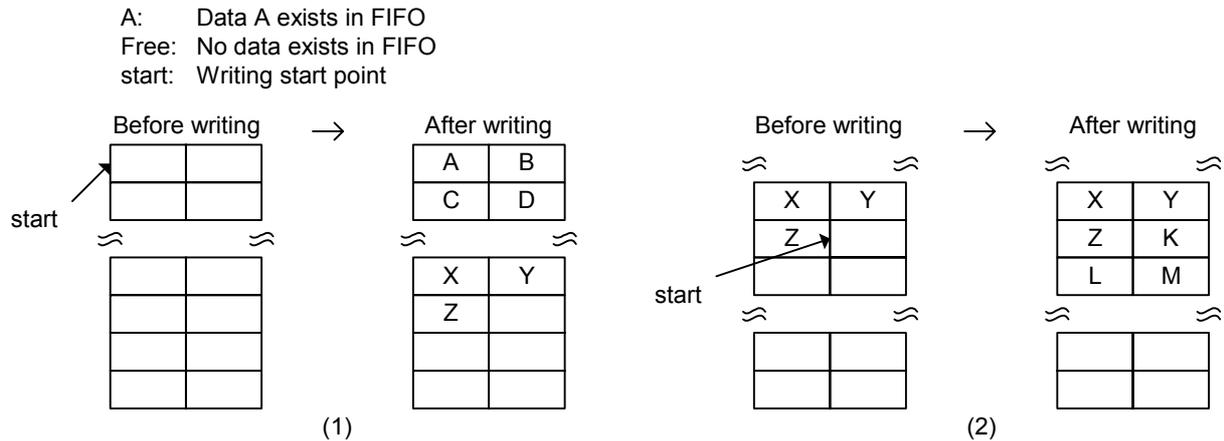

Fig.1.83 FIFO writing processing (normal operation)
When setting the AREAnFIFO_Clr.ClrAREAx {x=0-5} or MediaFIFO_Control.MediaFIFO_Clr bit (for media data transfer) and word writing from a state without byte boundaries and with odd data quantities, write the last byte (data Z) of the continuous data to the High side only. This situation is illustrated in Fig.1.83 (1). Data is output from the USB in the sequence A, B, C, D ... X, Y, Z.
When writing from a state in which byte boundaries exist in the FIFO, first write the data to the Low side (write data K) to clear the byte boundaries before word writing (data L and M). This situation is illustrated in Fig.1.83 (2).